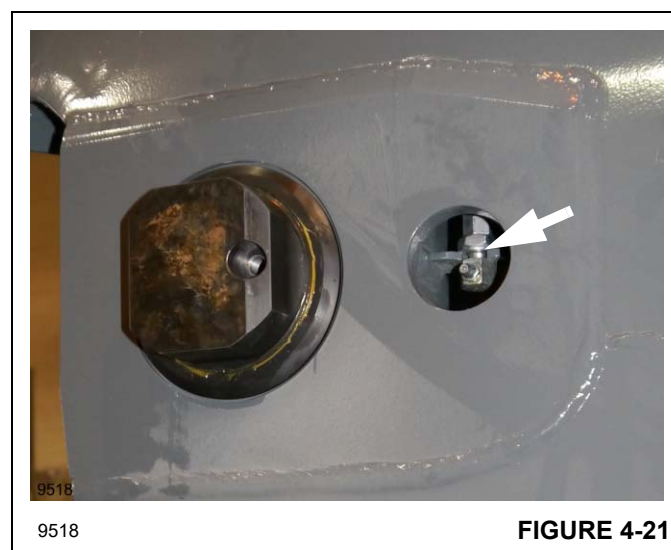

FIGURE 4-21
1. Install the plates (49, 50) and sliders (48).
2. Install the wear pads (52).
3. Install the plates (45, 46) and sliders (44).
4. Install the guide pilots (47).
5. Install the plates (42, 43) and sliders (41).
6. Place the wear pad (37) on the section and insert six strips (40) inside.
7. Secure the wear pad (37) with the plate (38).
8. Install the opposite wear pad (73), strips (40) and plate (38).
10. Attach the thin nuts (64) and pipe unions (63) to the lubrication hoses and secure the hoses to the tabs (Figure 4-21) inside the section.